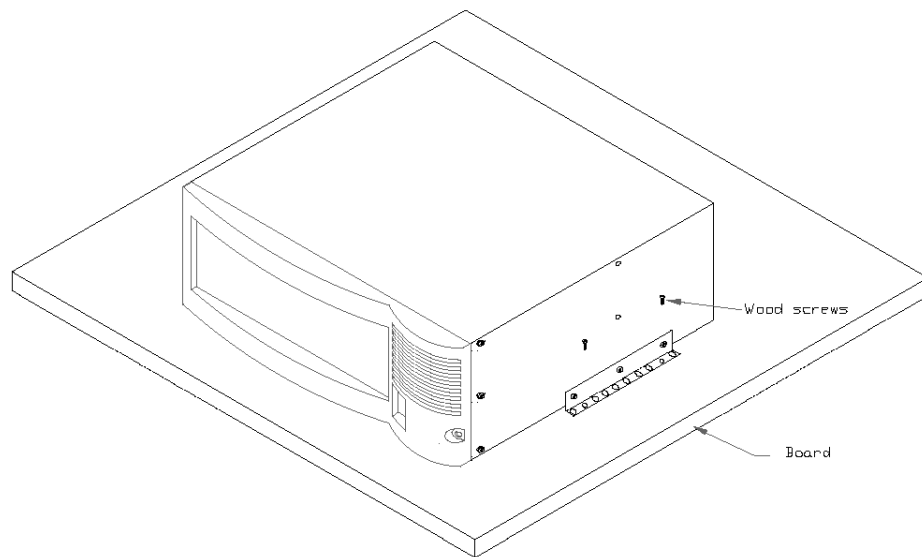

Figure 6.1. Securing the VSR-2 Chassis to the Board
6. Using the supplied wood screws, fasten the VSR-2 to the board as illustrated in Figure 6.1, starting with the top bracket and then the bottom. **Use extreme caution during this step**, making sure you are securely supporting the weight of the device until it is firmly fastened to the board.